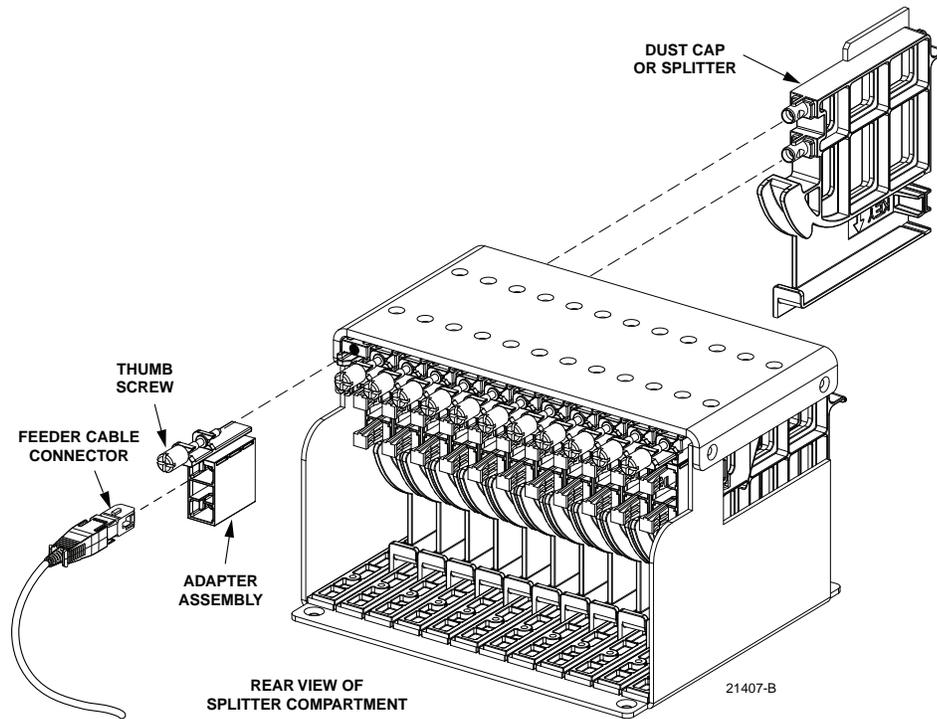

Figure 36. Splitter Compartment Adapter Replacement
3. Remove the feeder cable connector(s) from the rear side of the broken adapter assembly as shown in Figure 36 and install a dust cap on the connector(s).